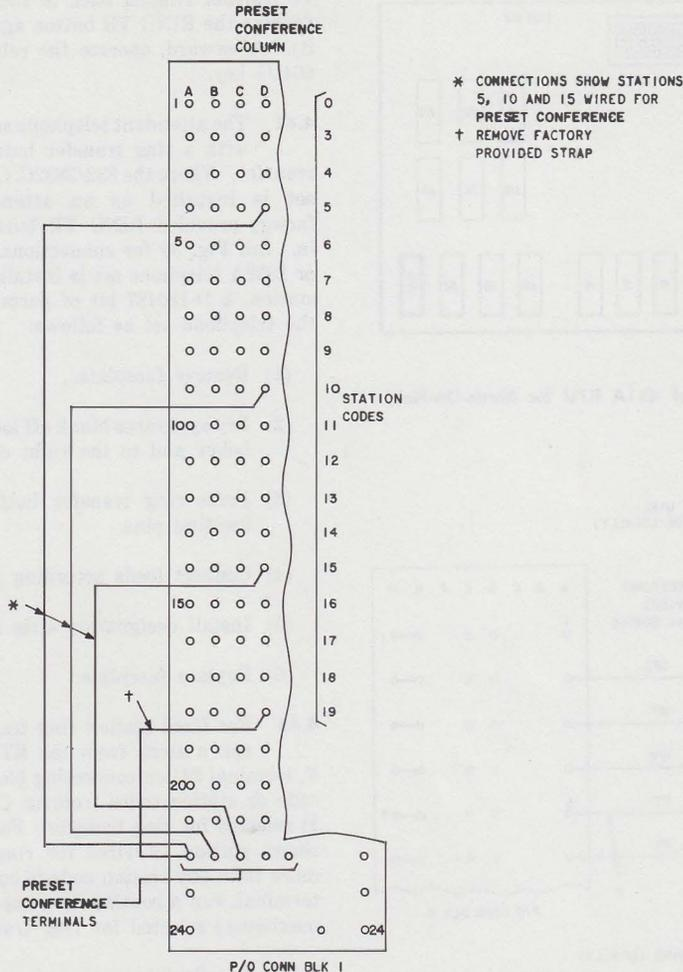

Fig. 36—Connections for Intercom Preset Conference
4.34 To connect preset conference, strap the terminals in the preset conference row to the desired stations in column D, connecting block 1 (Fig. 36). For example, Fig. 36 shows that stations 5, 10, and 15 are wired for preset conference.